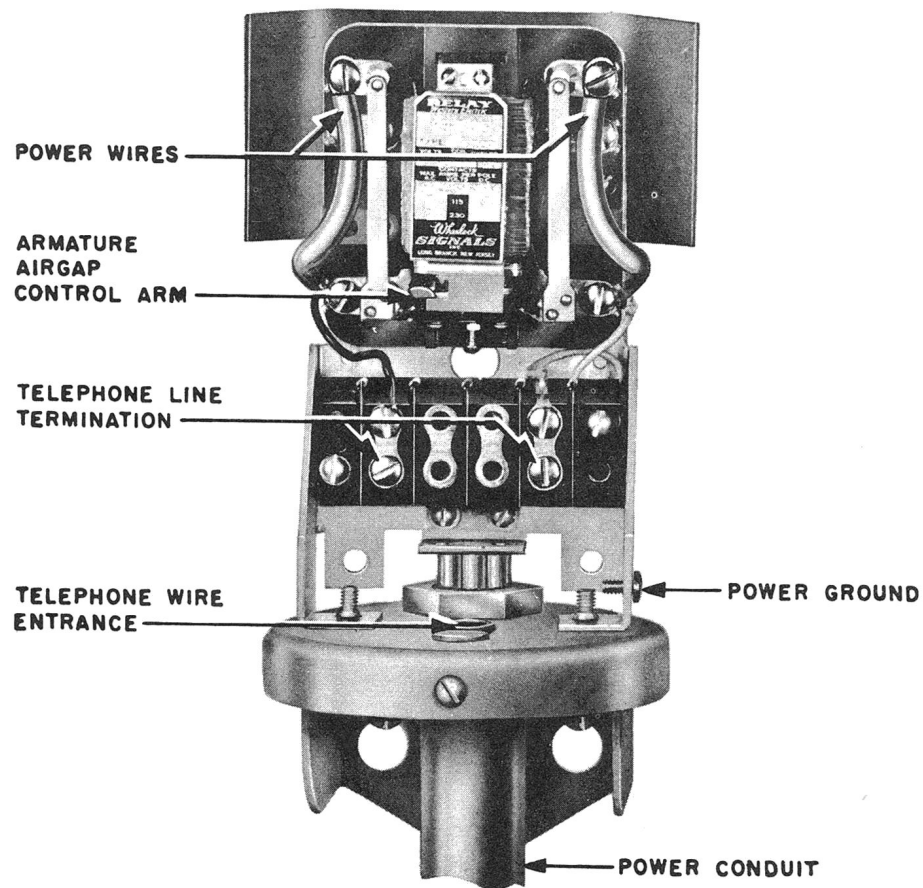

Fig. 5 — KS-16626, List 1 Relay Set, Cover Removed
**3.05** Entrance holes are provided in base of set for telephone and power wiring. Terminate telephone wires on connecting block as shown in Fig. 5.
**3.06** The customer shall arrange to have commercial power wiring terminated on relay set as shown in Fig. 5. Power connections are shown on circuit diagram in C Section entitled Auxiliary Signals, Connections.
**3.07** Relay set framework shall be connected to power system ground in accordance with the National Electrical Code and any local regulations that may apply. A power ground screw terminal is provided for this purpose (see Fig. 5).
**3.08** The armature airgap of relays operated by ringing current may be adjusted by a 2-position control arm as shown in Fig. 5. Control arm pivots to the right engaging the notch for minimum airgap and to the left for maximum airgap. Use wide airgap for dial areas and close airgap for long loops or manual areas.